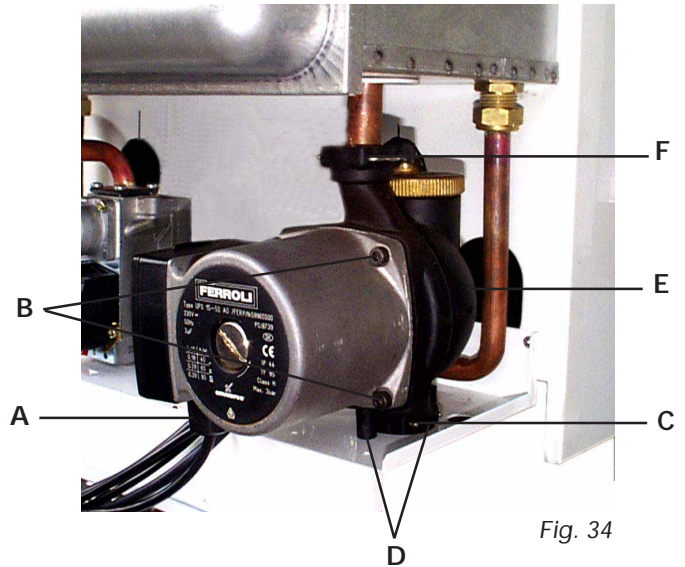

Fig. 34
7.14 Pump (fig. 34)
Replacement of pump body (fig. 34)